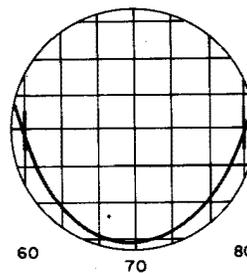

Fig. 5—Image Frequency Portion of Response Trace
| 22   | Adjust the SENSITIVITY and POSITION controls on the oscilloscope DIFFERENTIAL AMPLIFIER to position and center the trace on the oscilloscope. The trace should be similar to Fig. 5.           |
- 23 Loosen the locking collar on the FILTER TUNE control on the receiver modulator and adjust the FILTER TUNE control for maximum rejection (minimum output) at the sweep center frequency. The trace will be similar to the trace in Fig. 5. Tighten the locking collar while maintaining maximum rejection at the sweep center frequency.